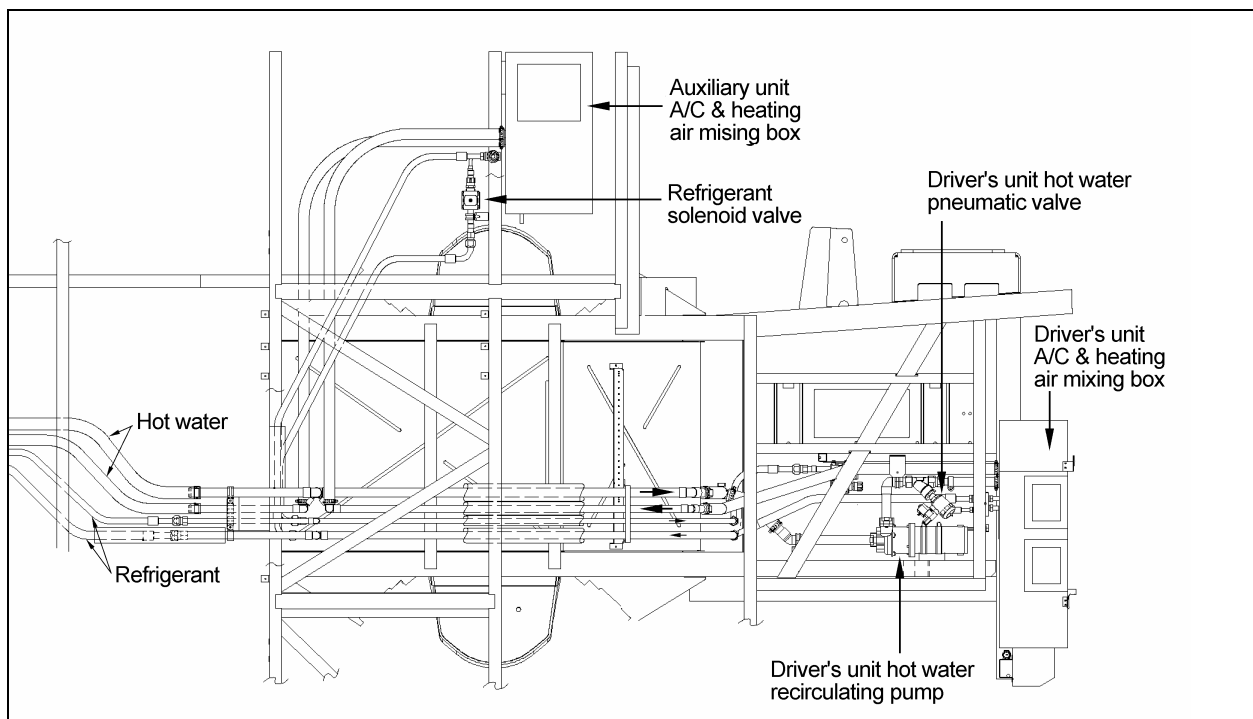

FIGURE 43: SMALL HVAC SYSTEM - DRIVER'S AND AUXILIARY UNIT
2. Locate the normally open hot water pneumatic valve on the ceiling of the spare wheel compartment (Figure 43), disconnect its wiring connector, then connect a 24-volt external power source, using jumper cables, to close valve.